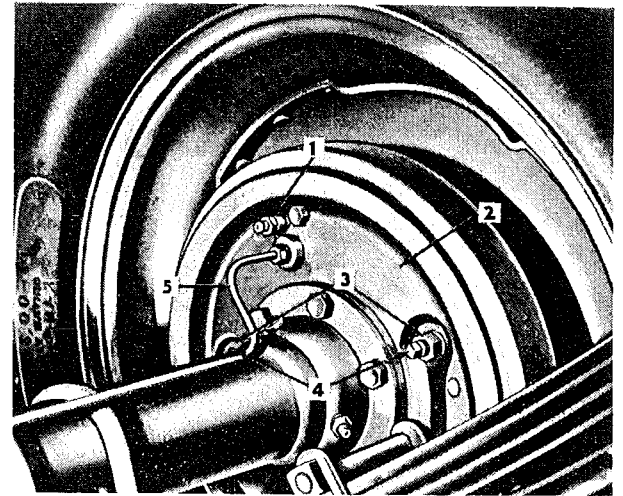

FIG. 165—BRAKE ADJUSTMENTS
The location of the brake adjusting eccentrics are shown in Fig. 165. First be certain that the brake pedal has $1/2$ " [12,7 mm.] free travel. Jack up the wheels to clear the floor. Adjustment is made by rotating the brake shoe eccentric (Fig. 165). With a wrench loosen the the lock nut (3) for the forward brake shoe, hold the lock nut, and with another wrench, turn the eccentric (4) towards the front of the vehicle until the brake shoes strike